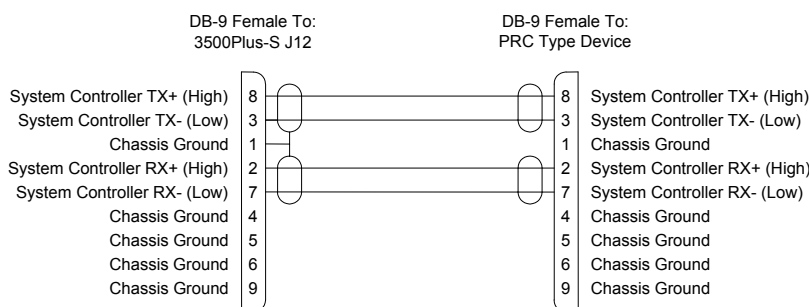

Figure 60. 3500Pro-S RS-422 Serial Cable
- COM 3/PRC is the communications interface to a PRC type routing switcher system and is connected to a routing switcher. If necessary, a cable up to 4000 feet in length may be fabricated in the field as shown in Figure 60.